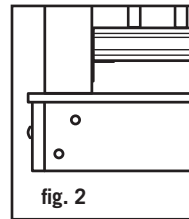

fig. 2
Step 3: Position, plumb with a level and clamp the rail post on the interior face of the joist. Plumb again. The 4x4 railing post should be bolted to the inside of the joists using two 1/2"x6" galvanized carriage bolts. Corner posts use a third carriage bolt inserted through the adjacent joist (fig. 2).